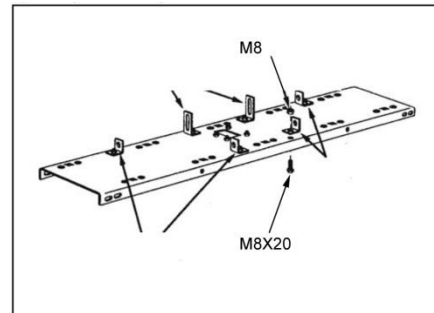

Figure 2
3. Fit two large and two small angle brackets on the mounting plate. Use four M8x20 bolts and M8 lock nuts. Do not tighten fully yet. Fit the remaining two small angle brackets with two M8x20 bolts and M8 lock nuts (fig. 2). Do not tighten fully yet.